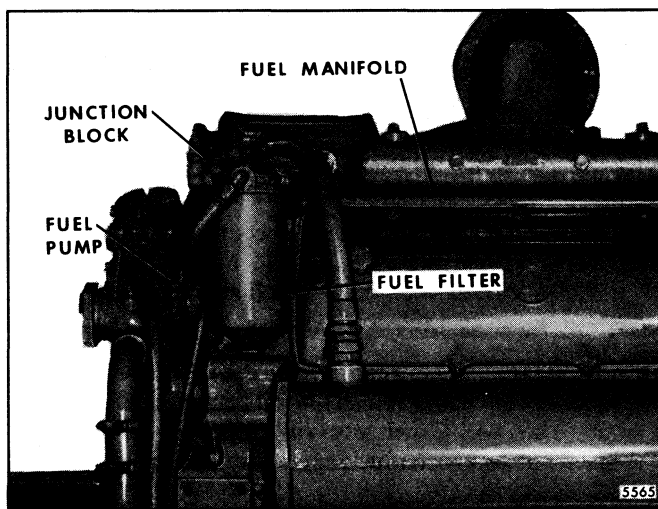

Fig. 1 - Fuel Filter Mounting (Early Engines)
- A fuel strainer (primary) and fuel filter (secondary) are used to remove impurities from the fuel (Fig. 1). The fuel strainer is located between the fuel tank and the fuel pump. The replaceable density-type element is capable of filtering out particles of 30 microns (a micron is approximately .00004"). The fuel filter is installed between the fuel pump and the fuel inlet manifold. The replaceable paper-type element can remove particles as small as 10 microns. Fiber glass elements can remove particles as small as 5 microns.
The bolt-on type fuel strainer and fuel filter (Figs. 1,2 and 3) are similar in construction and consist essentially of a shell, cover and a replaceable filtering element. The filtering element sets over the central stud, which is welded to the shell. The shell and element are attached to the cover by a nut or bolt that threads on or into the central stud. A shell gasket and cover bolt gasket seal the assembly against leakage.